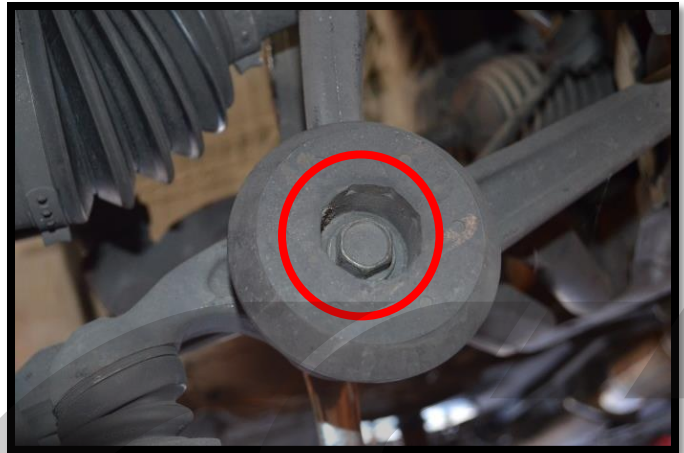

Figure 3f
- i) With a floor jack, lift the control arm to align the lower control arm with the strut fork. Insert the long 17mm bolt along with the rubber damper through the strut fork and lower control arm. The bolt will not insert unless everything is aligned. Thread the nut onto the back side and tighten to **75-80ft-lbs.** (Red Circle in Figure 3f)